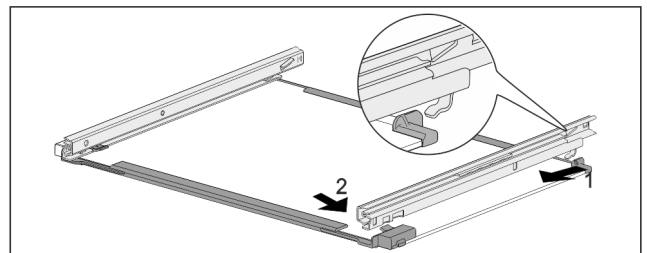

Fig. 158 Glass shelf with rails
- ▶ Hook in rail at the back. Fig. 158 (1)
- ▶ Hook in rail at the front. Fig. 158 (2)